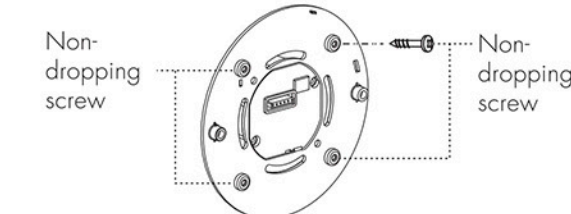

FIG. 12
- 3.3.4 Insert four non-dropping screws to the corresponding screw holes on detector's fixing plate. Afterwards, those four screws will not drop off to provide convenient subsequent installation (See FIG.12).